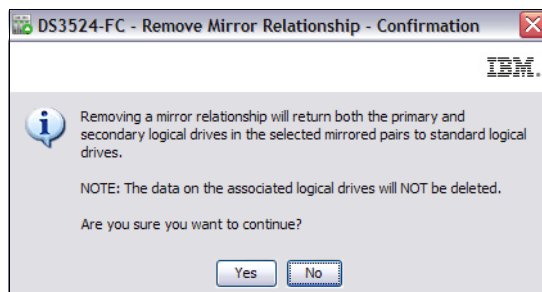

Figure 5-53 Remove Mirror Relationship - Confirmation
2. Select the mirrored logical drive pairs for which you want to remove the mirror relationship. To select multiple mirrored pairs, use the Ctrl+click or Shift+click keyboard options. To select all of the mirrored pairs, click **Select All**. Click **Remove**. The Remove Mirror Relationship - Confirmation dialog opens, as shown in Figure 5-53.